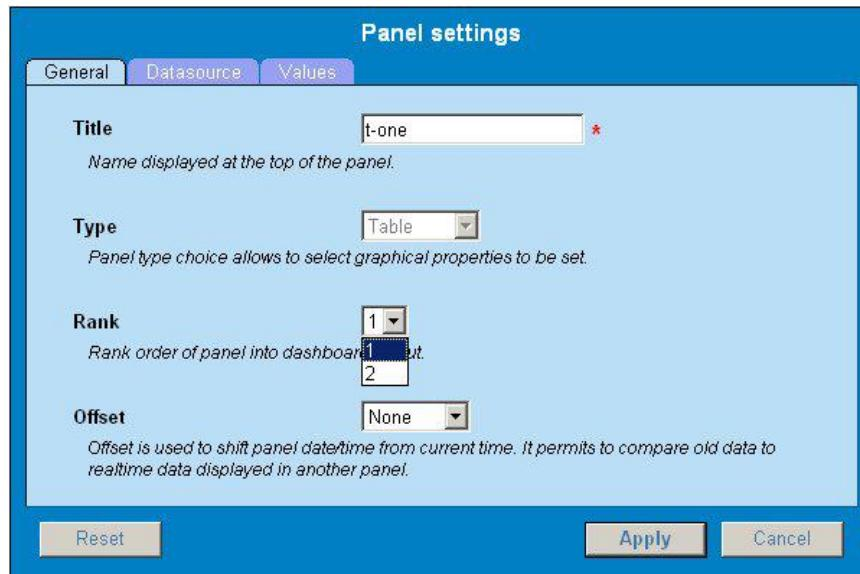

Figure 21: Panel Settings Screen
2. Click **Edit record** to open the panel shown in Figure 21: Panel Settings Screen.